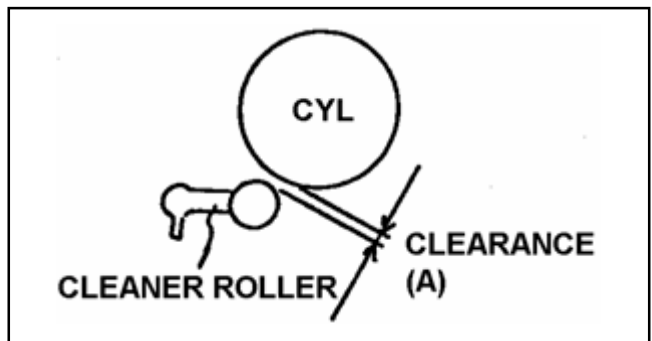

Figure 5-22-4
1. Observe the clearance (A) between Cleaner Roller and cylinder Unit as shown in Figure 5-22-4. And make sure that it is within 1.0 to 1.2mm.